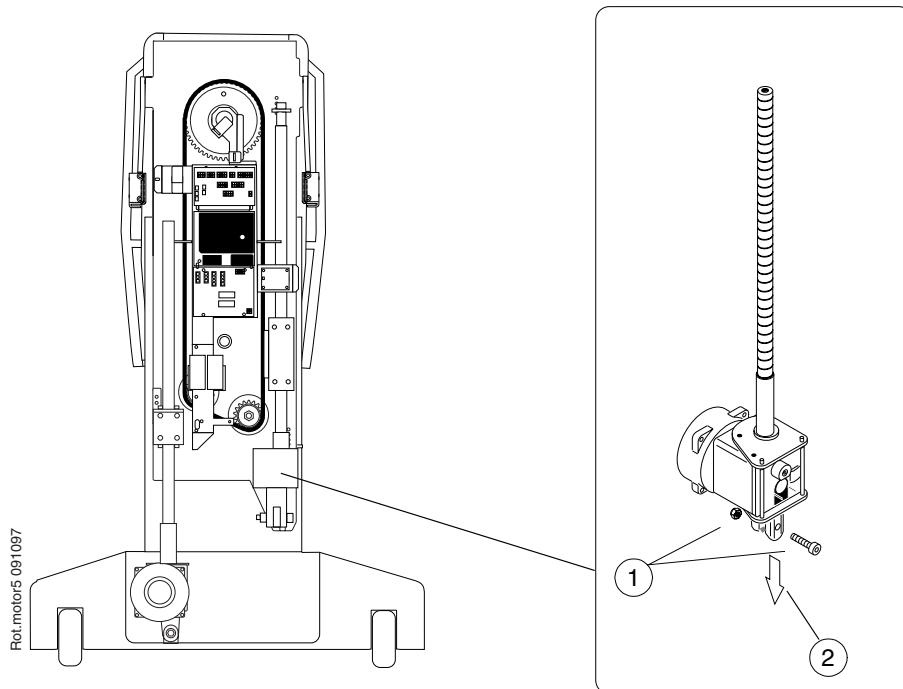

Figure H.36
- h) Remove the screw that fixes the rotation motor to the telescopic column and remove the motor (see Fig. H.36).
- n) Remove the screw that fixes the rotation motor to the telescopic column (Fig. H.36, 1) and remove the motor (Fig. H.36, 2).